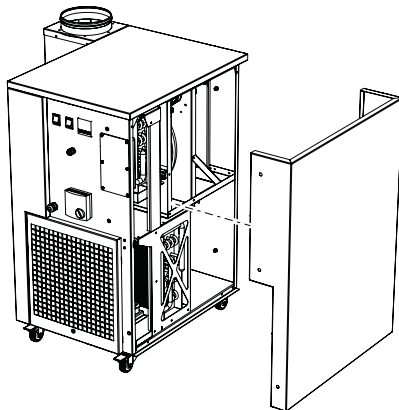

FIGURE 15: Service panel
2. Pull out the service panel. "FIGURE 15: Service panel"